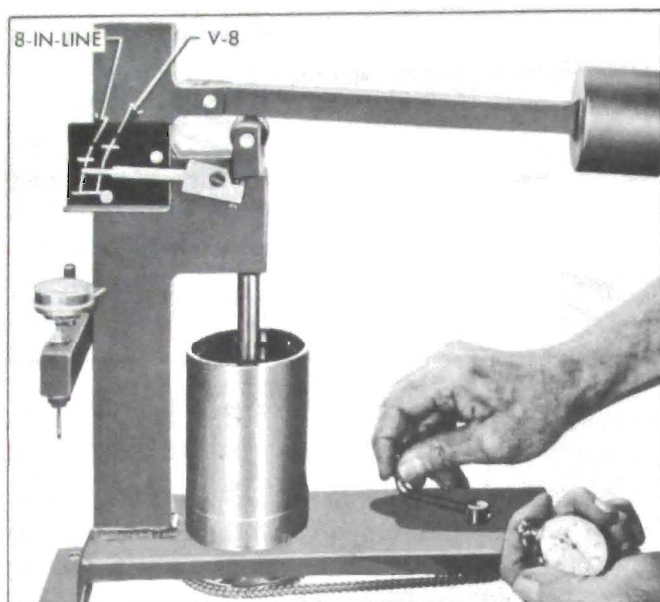

Figure 2-34—Checking Leakdown Rate
4. Lower the ram to rest in the lifter push rod seat, then lower the weight arm to rest on the roller of ram as shown in Figure 2-34.
6. Raise weight arm to allow the lifter plunger to come up to its retainer, then lower the arm to rest on the ram roller. As the pointer starts moving upward start rotating the fluid cup by turning the handle one revolution every two seconds. See Figure 2-34.
7. Use a stop watch to check the time required for pointer to move from the lower to the upper mark on scale where marked "BUICK V-8." The cup must be rotated during this test. See Figure 2-34.